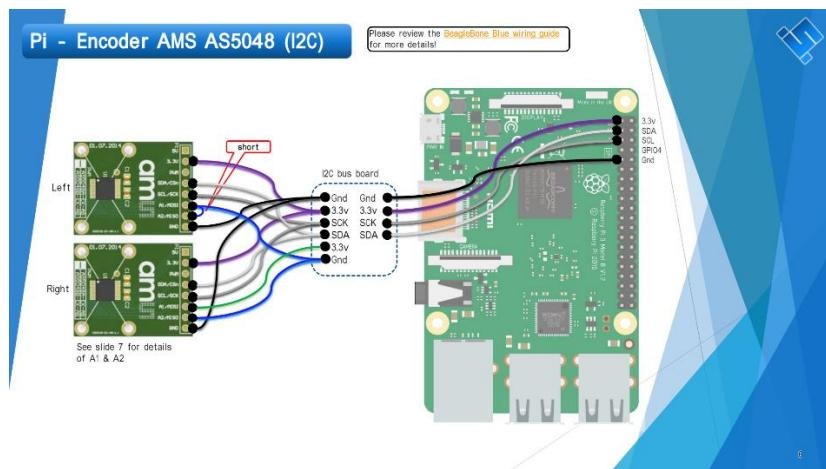

Figure 25
- Figure 25 shows another view of how the wires should connect from the left and right encoders to the I2C bus, and from the I2C bus to the Raspberry Pi.